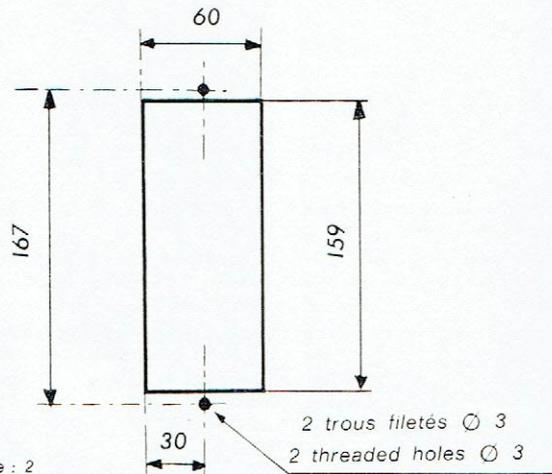

Figure : 2
7. RÉALISATION, PRÉSENTATION, DIMENSIONS (voir figure 2).
7. PRESENTATION - DIMENSIONS (see figure 2).